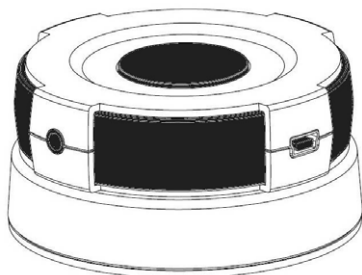

Figure 1 ZXT-120
The ZXT-120 is a Z-Wave to IR extender for air-conditioner (AC), (Figure 1), it works with any Z-Wave compliant gateway or controller by translating Z-Wave Thermostat Commands to AC IR control code. User can select the IR code from the built-in code library of ZXT-120, or use learning function, by using Z-Wave Configuration Commands according to the parameter table. ZXT-120 is also with built-in temperature sensor which allows gateway or controller to get the current room temperature.